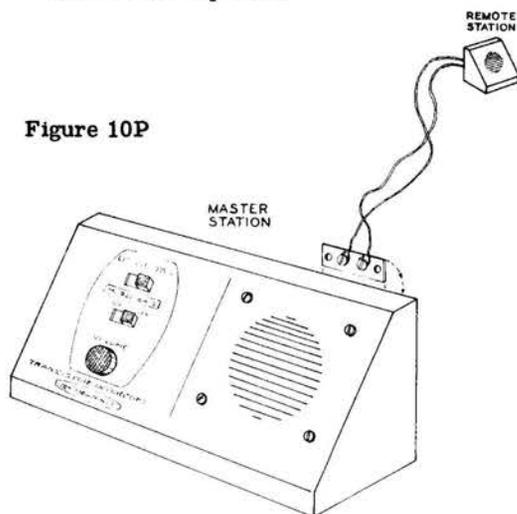

Figure 10P
- () Connect the remote station to the master station as shown in Figure 10P with two short lengths of wire.